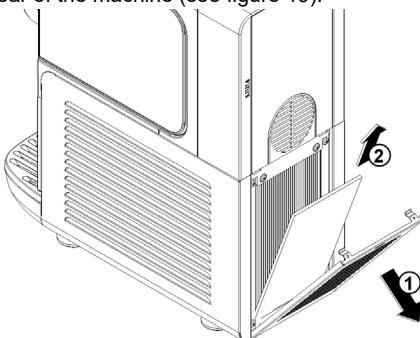

figure 19
- 6** Once a month: eliminate any dust that has built up on the condenser filter situated at the rear of the machine (see figure 19).